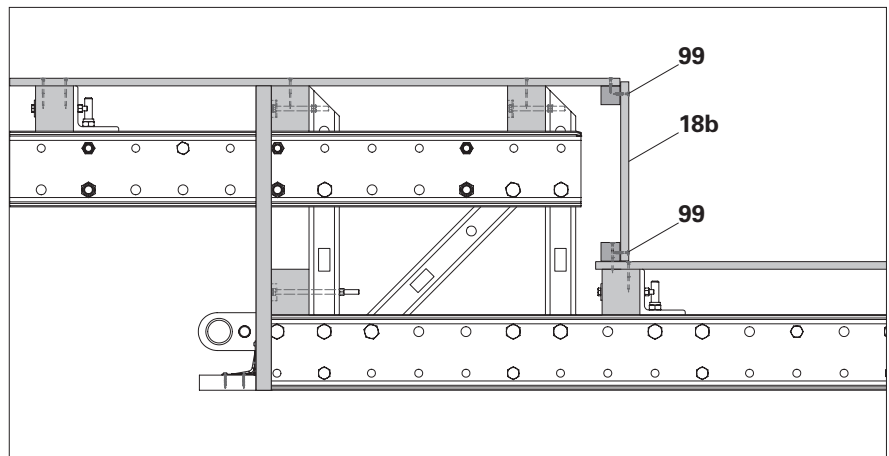

Fig. C3.06a
5. Pre-drill cover sheet (**18b**) and fix to squared timbers (**87 + 87a**) using screws 6 x 60 (**99**). (Fig. C3.06a)